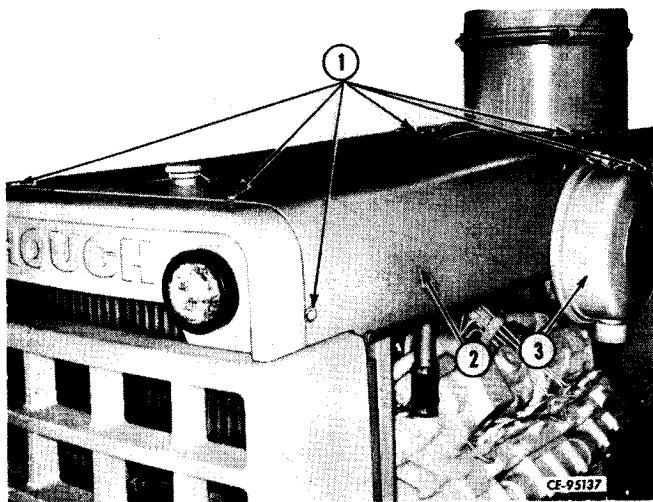

Figure 2-6
Remove cap screws and nuts (1, Fig. 2-6) disconnecting hood (2) from grille and bulkhead. Using a suitable hoist, remove hood. Engine air cleaner (3) will also be removed with the hood.